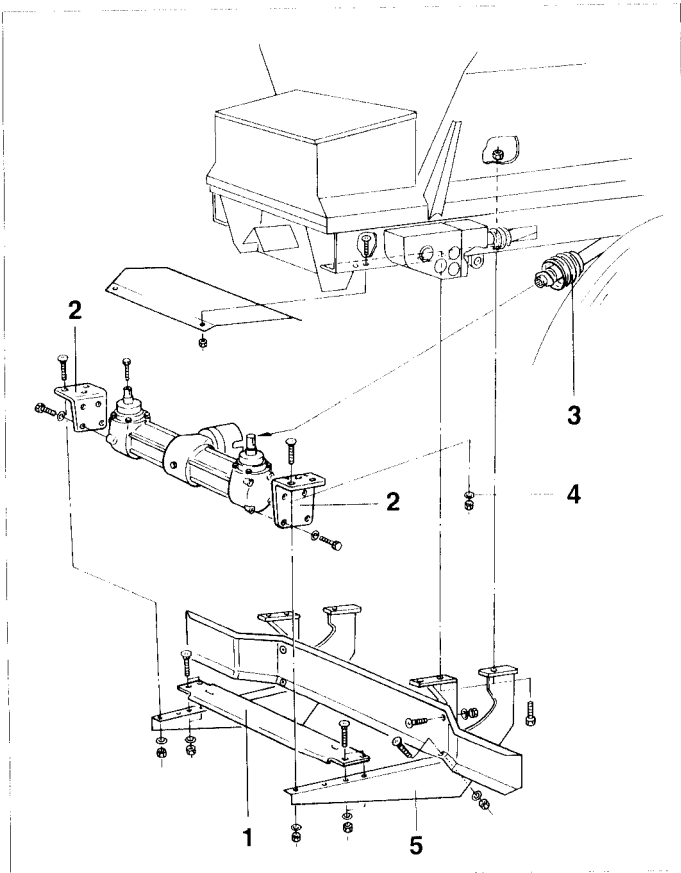

Fig. 6.3
- Fit the universal spreading unit as described in figure 6.3.
Push the stop (fig. 6.3/1) onto the angle brackets (fig. 6.3/2) of the universal spreading unit and then bolt it in place.
Push stop-disk (Fig. 6.3/4) sideways against carrier of spreading unit (Fig. 6.3/5) and also bolt it in place.
- Attach the p.t.o. shaft with the overriding clutch (fig. 6.3/3) to the end of the spreading unit's p.t.o. shaft and ensure that it engages correctly.
- Do not remove the stop (fig. 6.3/1). When fitted again at a later date, the universal spreading unit can be simply slid against the stop and secured.
- The half of the p.t.o. shaft (fig. 6.3/3) that is hanging beneath the bulk precision broadcaster must be completely removed before taking off the universal spreading unit.